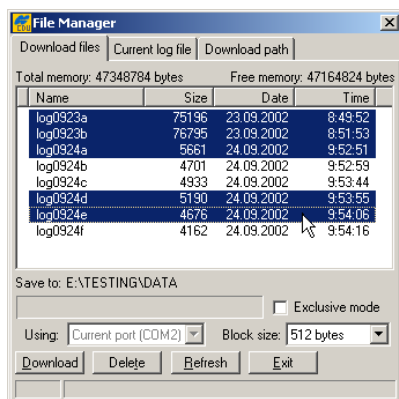

Figure 4-4. Download Files
- Click the **Download files** tab and select the file(s) to download (Figure 4-4 on page 4-12).